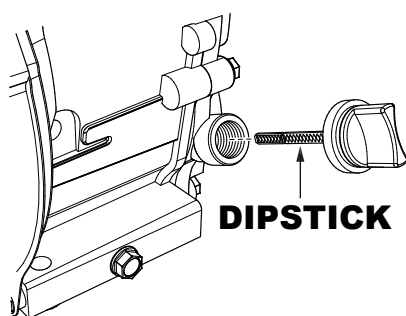

Figure 11. Engine Oil Dipstick
2. Remove the oil dipstick (Figure 11) from the engine oil filler hole and wipe it clean.